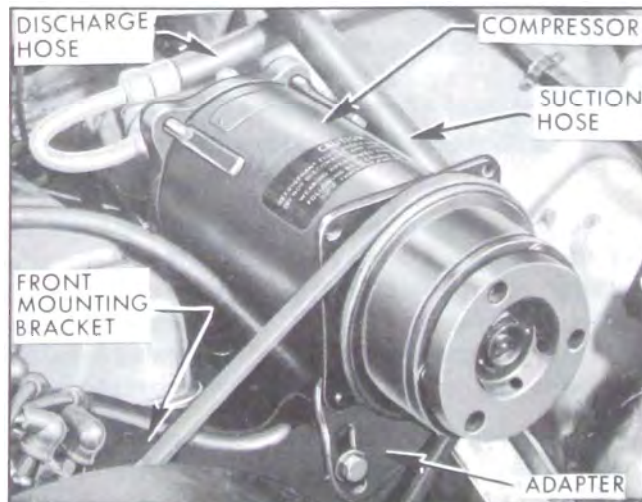

Figure 11-94—Compressor Mounting - V-6 Engine
6. To complete compressor removal, disconnect adapter from front mounting bracket. See Figure 11-94.